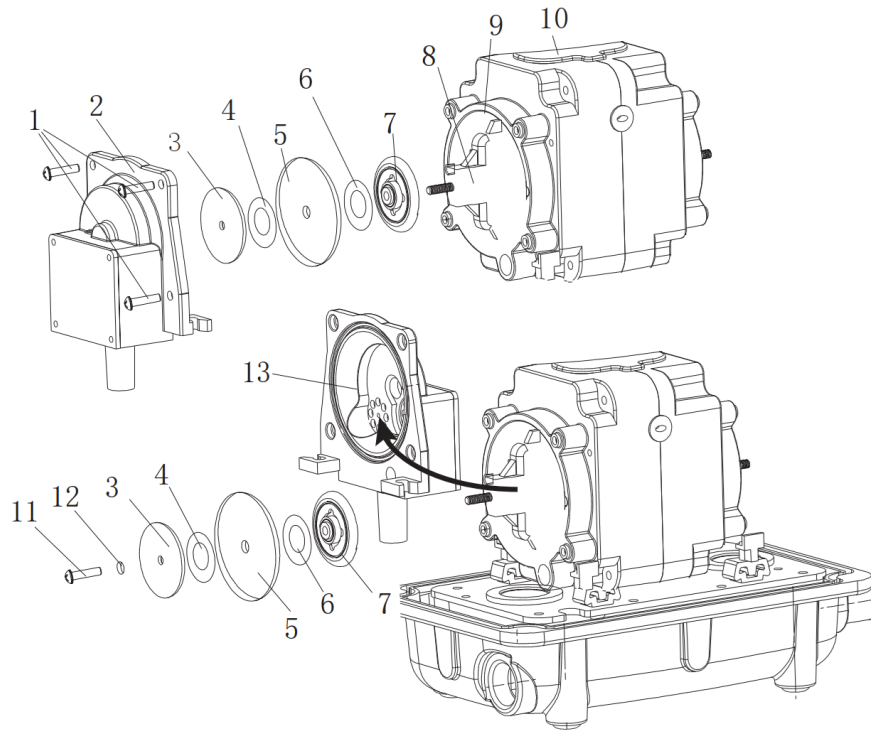

Figure 4. Replacing the diaphragm
1. Loosen the screws (Figure 4: Replacing the diaphragm (on page 9), pos. 1).